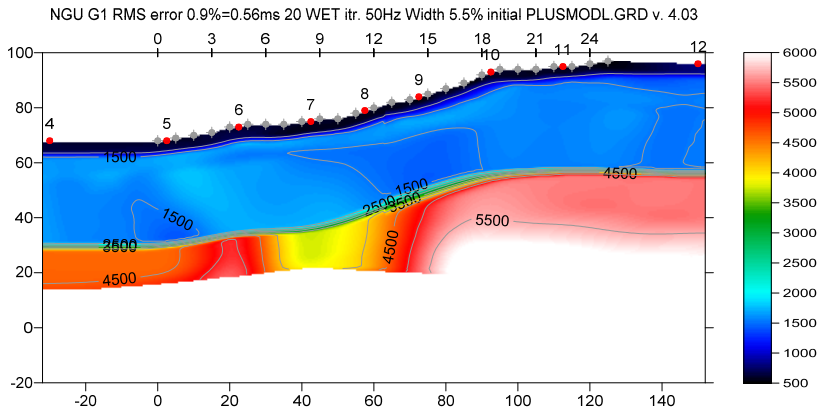

Fig. 43 : WET Tomo|Automatic WET with Fig. 42 starting model. Discard WET smoothing (Fig. 19).
- click on Surfer icon in task bar to view the WET tomogram (Fig. 43) obtained with default WET parameters : 20 *Steepest-Descent* WET iterations, *Wavepath frequency* 50Hz, *Ricker differentiation -1* (Gaussian), *Full WET smoothing*.
Here is the .rar archive with LAYRTOMO folder for Fig. 43 .
Here is the .rar archive with seis32.* profile database files for Fig. 43 .